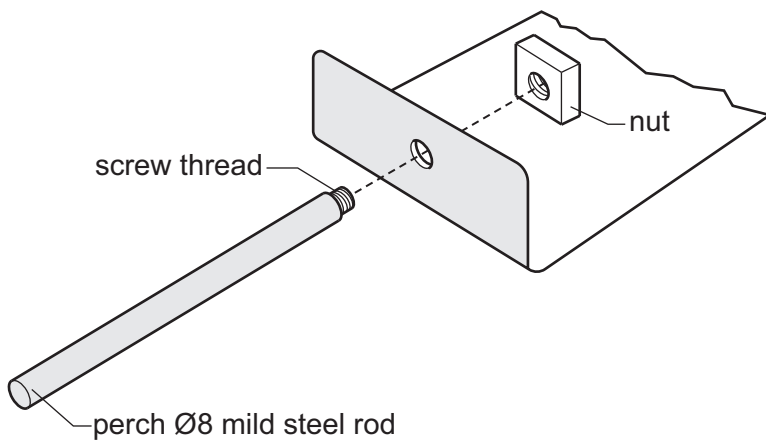

Fig. 12.6
- (d) Fig. 12.6 shows the perch that will be joined to the bird feeder by means of a screw threaded mild steel rod and nut.